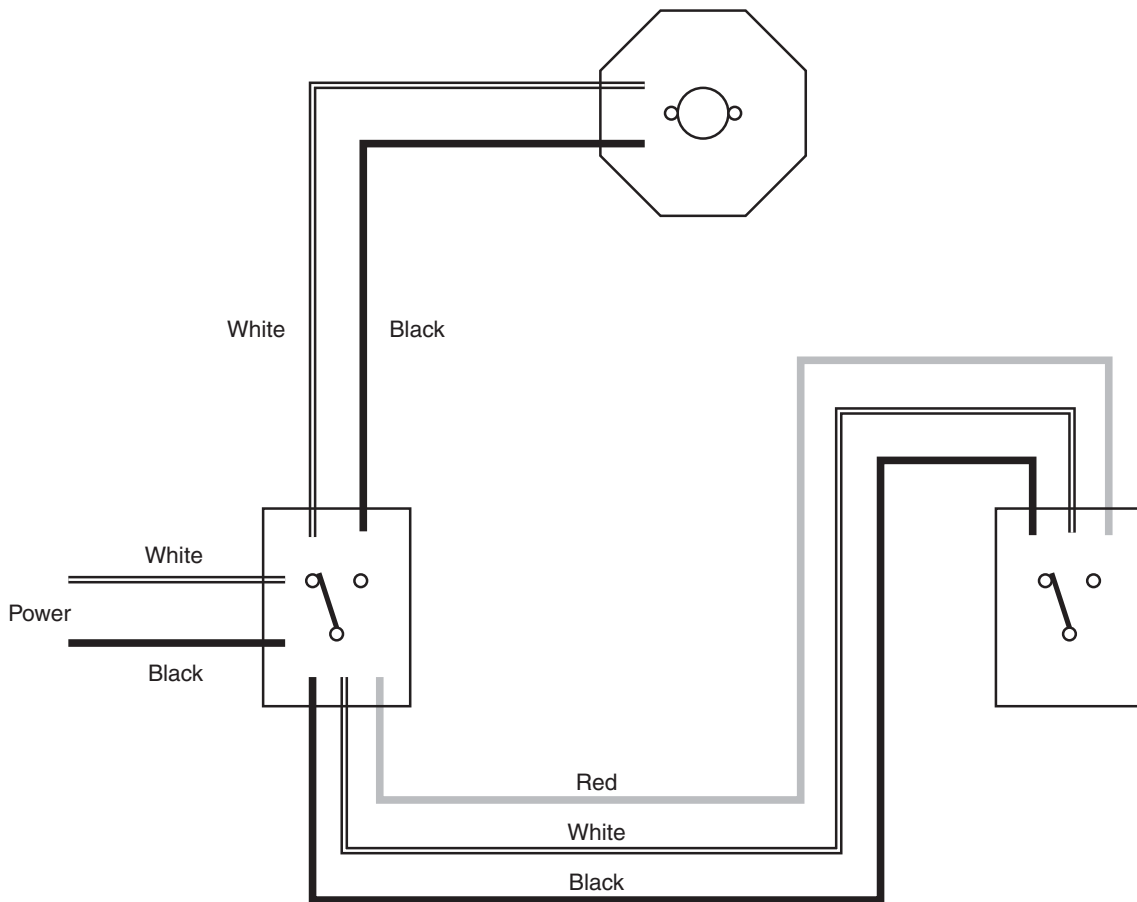

Figure 8-23 Connect the circuit.
(See Figure 8-23.)
5. Refer to Figure 8-23. Connect the wires for proper switch operation. Connect the circuit so that a black conductor will supply the common terminal on each 3-way switch.